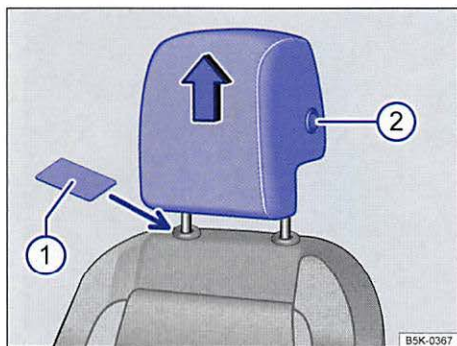

Fig. 39 Removing the front head restraints.
- Slide a flat object, such as a plastic credit card, underneath the right side of the cap on the right-hand seat guide rod  **fig. 39 ①**.
- To release the left-hand guide rod, press button **②** in (towards guide rod) and hold.
- Pull the head restraint out completely while holding button **②**.